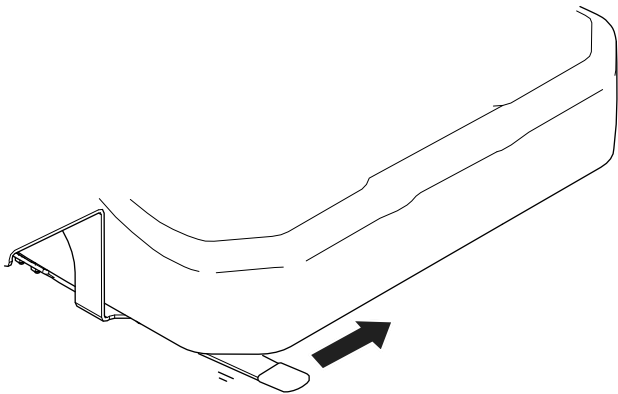

Figure 12
- **Model 32301:** Move the lever to the left (Figure 12), move the seat to a comfortable position, and release the locking lever to secure the position of the seat.